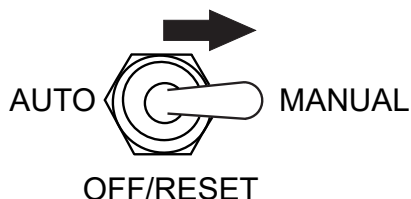

Figure 91. Auto Start/Stop Switch
2. While keeping the **Hour Check button** pressed, place the **Auto Start/Stop switch** (Figure 91) in the **MANUAL** position.